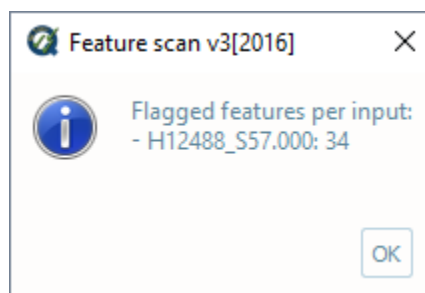

Fig. 2.40: Feature scan's output message.
- After computing, the output window opens automatically, and the results are shown (Fig. 2.40).